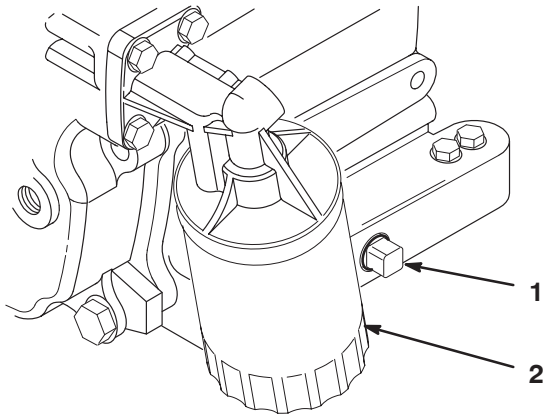

Figure 14
2. Remove the drain plug (Fig. 14) and let oil flow into a drain pan. When the oil stops, install the drain plug.
3. Remove the oil filter (Fig. 14). Apply a light coat of clean oil to the new filter gasket.